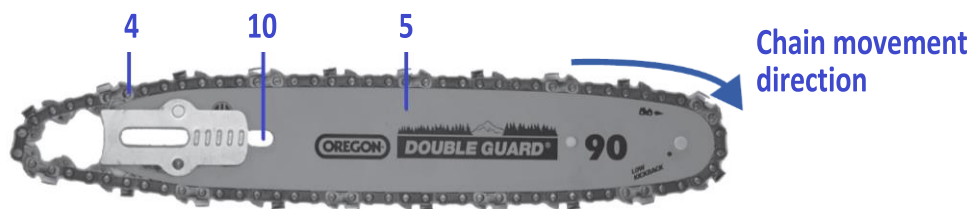

Fig. 2a
- Turn the bar locking wheel (9) anti-clockwise in order to remove the sprocket cover.
- Place a new chain (4) onto the guide bar (5), along top groove of guide bar, and wraps around guide bar nose. Make sure cutting edges of chain are in correct direction. Position the chain, so that the cutting edges on top of guide bar facing the guide bar nose. Refer to Fig. 2a.